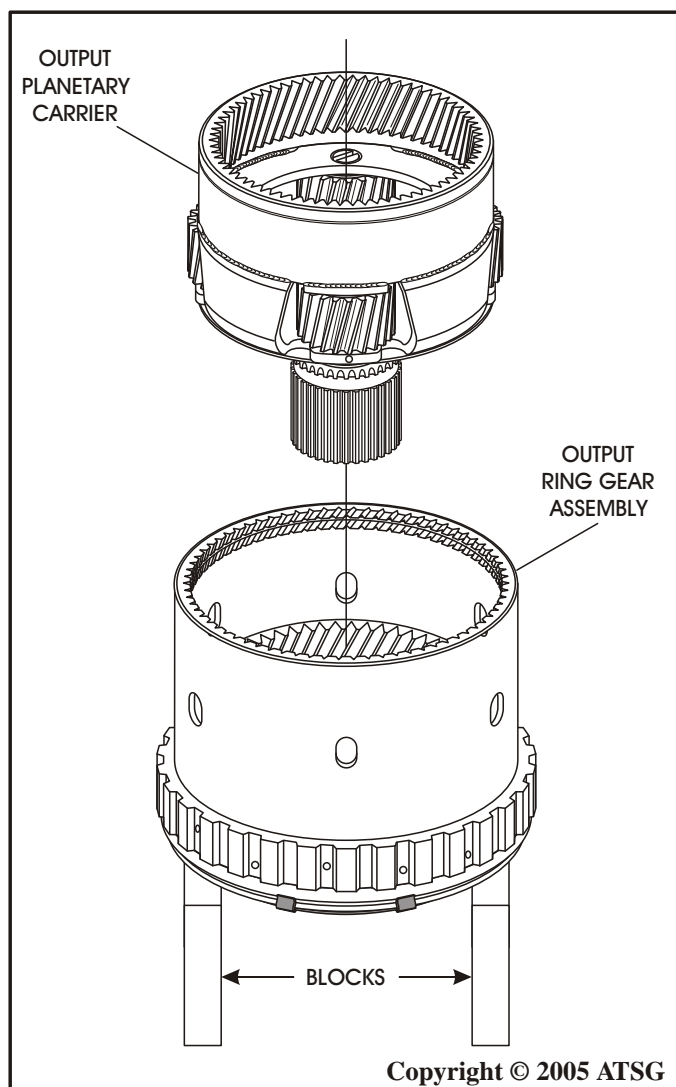

Figure 99
10. Turn the ring gear assembly over and set on device to raise it off of the work surface, as shown in Figure 99.
11. Install the output planetary carrier into output ring gear, as shown in Figure 99, and rotate to engage planetary gears.